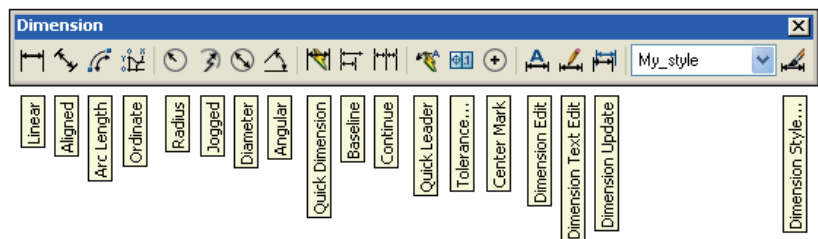

Fig. 6.3 The **Dimension** toolbar
3. From the **Dimension** toolbar (Fig. 6.3). The toolbar can be called to screen with a *right-click* in any toolbar on screen, followed by a **click** on **Dimension** in the pop-up menu which appears.
2. *Left-click* on the **Linear Dimension** tool icon in the **Command Tools** palette or on **Linear** in the **Dimension** toolbar (Fig. 6.3). The command line shows: